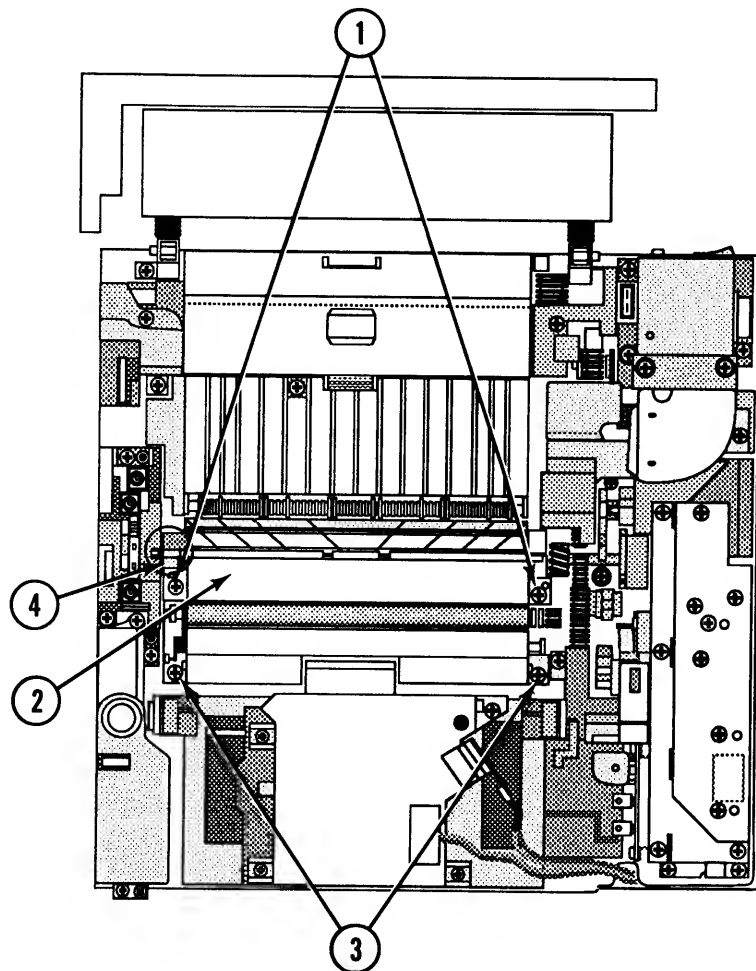

FIGURE 40
2. Remove the two Phillips screws (Figure 40, #1) that secure the upper transfer guide (Figure 40, #2) to the transfer guide assembly.
3. Remove the two Phillips screws (Figure 40, #3) that secure the transfer guide assembly to the cassette holder.
1. Make sure the collar at the end of the roller shaft is positioned as shown in Figure 40, #4. Place the transfer guide assembly in position.